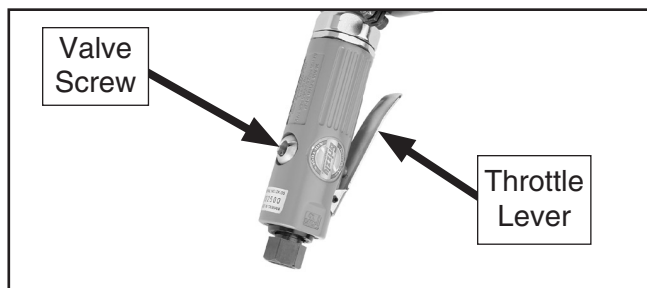

Figure 6. Sander controls.
2. Hold the sander and push the throttle lever (**Figure 6**) to operate the sander and adjust the speed. Turn the valve screw to set the maximum belt speed.